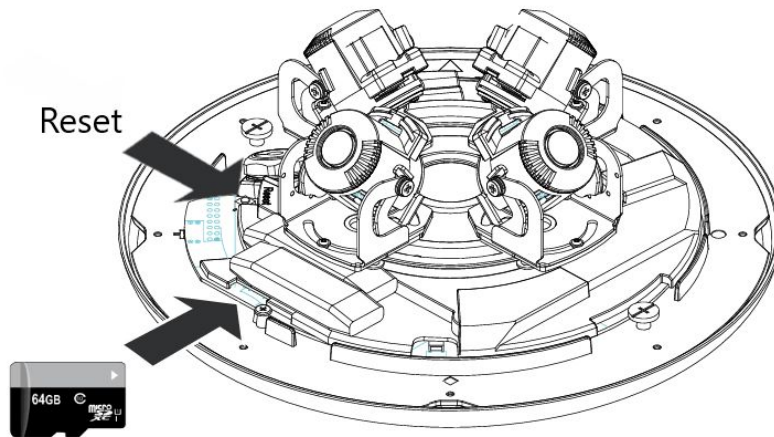

Figure 1-13
Step 1 Remove the camera's **Dome Cover**. You will need to loosen all 8 of the captive T10 screws, then rotate the **Dome Cover** to the unlock position. Please refer Figure 1-13 for SD card slot and reset location.